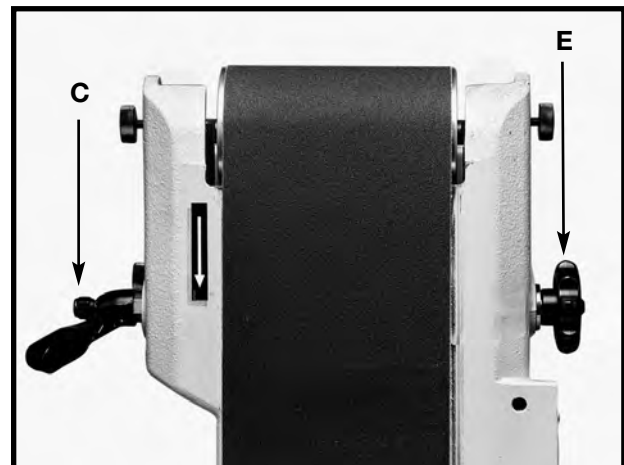
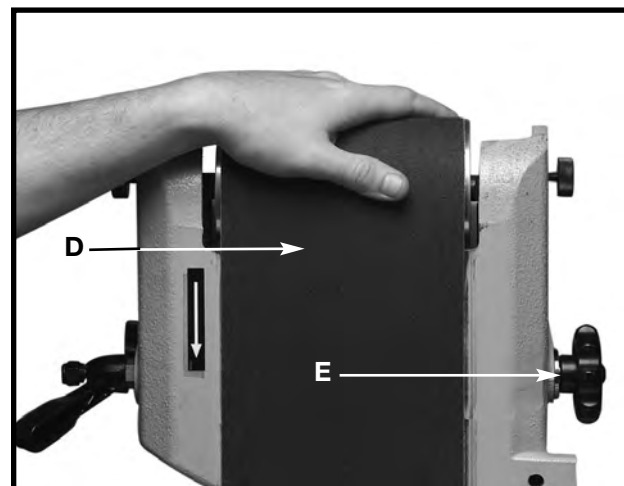

Fig. 20
Fig. 21
2. Turn the belt tension lever (C) Fig. 20 counter-clockwise to increase the belt tension. **NOTE:** The tension lever (C) is spring-loaded and can be repositioned by pulling out the handle, moving it, and letting it spring back into position. Correct tension is determined by:
3. Rotate the belt (D) Fig. 21 by hand, and tighten or loosen the tracking knob (E) Figs. 20 and 21 until the belt is tracking correctly.
4. Turn the tool on and off to check for proper tracking. If the belt is leading to one side or the other, very gently turn the tracking knob (E) Fig. 20 clockwise to move the belt to the right or counterclockwise to move the belt to the left.